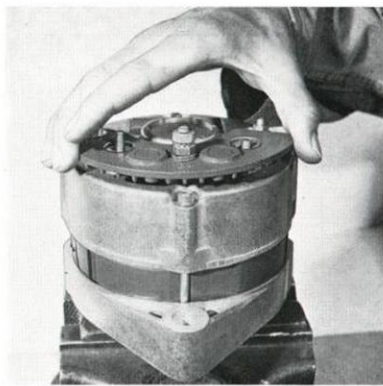

Fig. 3-30. Removing isolation diodes
3. Remove the nuts and washers on terminal 61 and the corresponding on the other side of the isolation diode. Lift off the isolation diode holder, see Fig. 3-30.